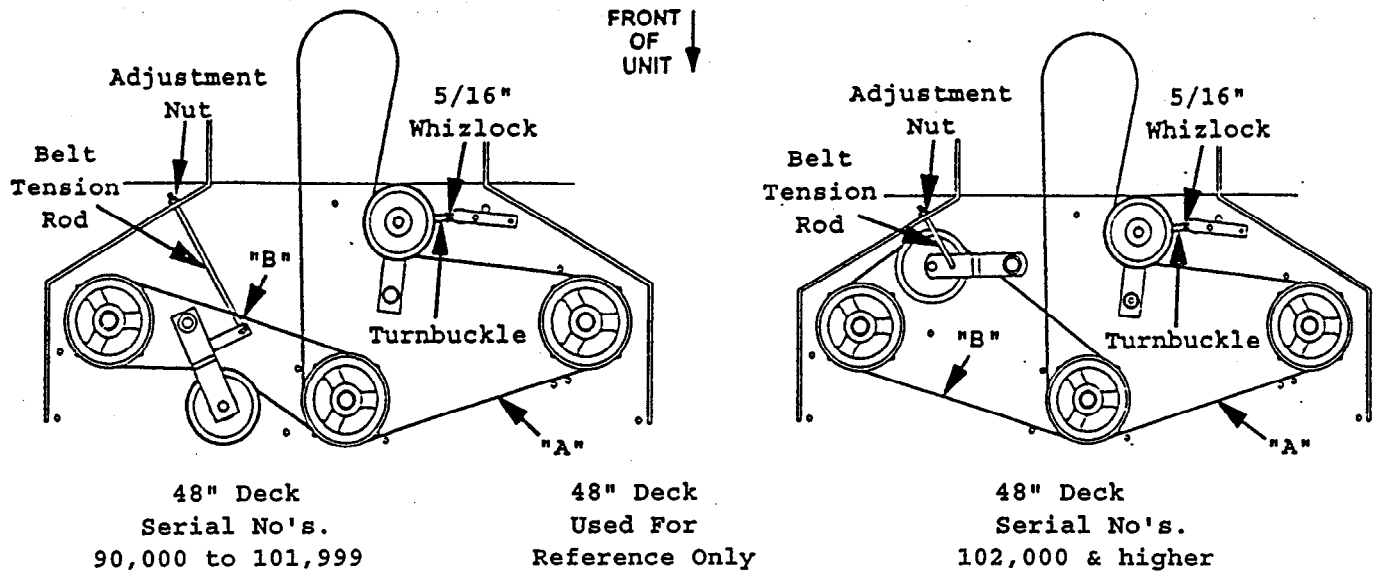

FIG. 19
reduce belt and spindle bearing life. To adjust belt tension, loosen the 5/16" whizlock nut on turnbuckle and rotate the turnbuckle; rotate turnbuckle toward rear of mower to tighten, and toward front of mower to loosen belt tension (See Figure 19).
e) For the 8.5, 12.5 and 14 hp engines, proper belt tension will require about 10 lbs. side pull on belt, halfway between pulleys (See Figure 19, Point A) to deflect belt 1/2".
- b) The secondary drive belt is adjusted via the belt tension rod (See Figure 19). The 5/16" nylock adjustment nut is located at the rear, right corner of engine deck.
- c) Proper belt tension (for the secondary belt) will require about 10 lbs. side pull on belt, halfway between pulleys (See Point B, Figure 19) to deflect belt 1/2".